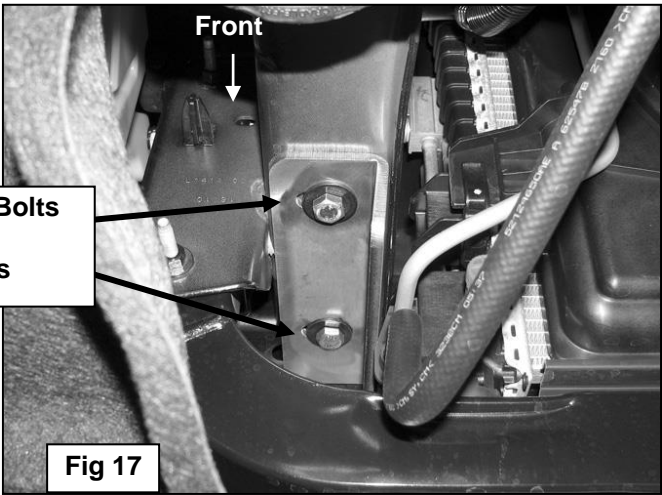

Fig 17
- 4. Select the driver side Frame Mounting Bracket. Line up the (2) slots in the bracket with the (2) threaded holes in the bottom of the frame channel, **(Figure 16).** Bolt the Bracket to the frame channel with (2) 10mm x 35mm Hex Bolts, (2) 10mm Flat Washers and (2) 10mm Lock Washers, **(Figure 17).** Do not tighten hardware at this time.